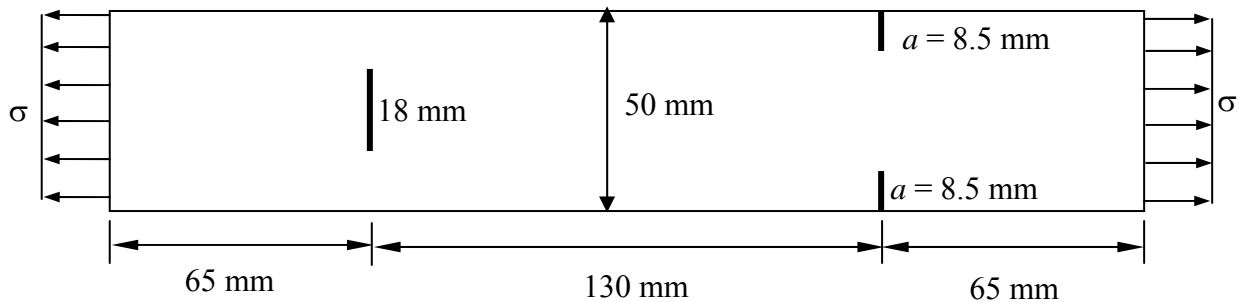

Fig. 2
2. Which of the cracks shown in Fig. 2 is critical? Justify your answer.